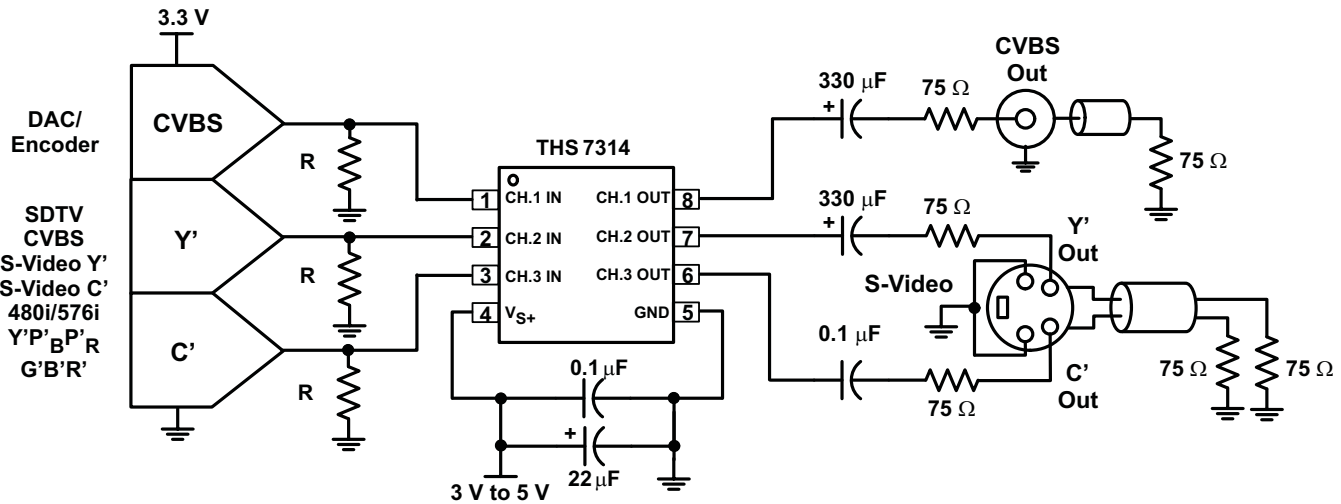

Figure 29. Typical SDTV CVBS/Y'/C' Inputs From DC-Coupled Encoder/DAC With AC-Coupled Line Driving
A typical application circuit using the THS7314 as a video buffer is shown in Figure 29. It shows a DAC (or encoder such as the THS8200) driving the three input channels of the THS7314. Although the S-Video Y'C' channels and the Composite video channel of a Standard Definition video (SD) system are shown, these channels can easily be the Y'P_BP_R (sometimes labeled Y'U'V' or incorrectly labeled Y'C_BC_R) signals of a 480i or 576i system. These signals can also be G'B'R' (R'G'B') signals or other variations.